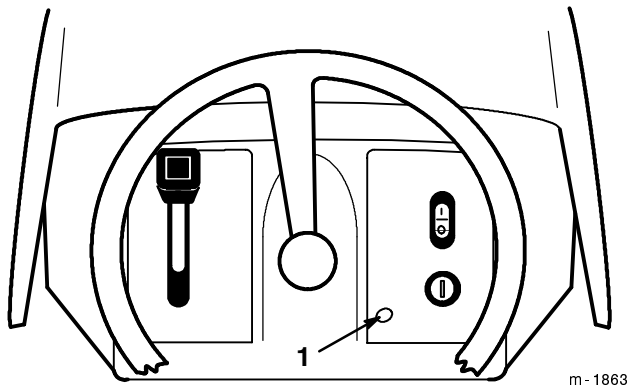

**Figure 10**
If you need to use the PTO while backing up, you can turn off this interlock feature using the KeyChoice switch located near the seat bracket (Fig. 10).
2. Insert the KeyChoice key into the switch (Fig. 10).